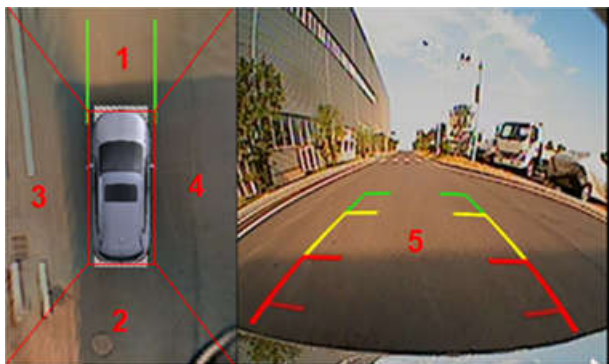

Figure 1: 2D aerial view + forward view
- e. When selecting the "1" area in Figure 1, (non R gear & non turn on left / right light) is shown as 2D aerial view + forward view (default view);
- f. When selecting the "2" area in Figure 1 or hanging R gear, it is shown as 2D aerial view + rear view.
- g. When selecting the "3" area in Figure 1 or turn on left light, it is shown as 2D aerial view + left view.
- h. When selecting the "3" area in Figure 1 or turn on right light, it is shown as 2D aerial view + right view.
- c. In the aerial view + single view mode, switch to the current one-way full-screen view according to the "5" area in Figure 1. It includes four views: front-view single-channel full-screen, rear-view single-channel full-screen,